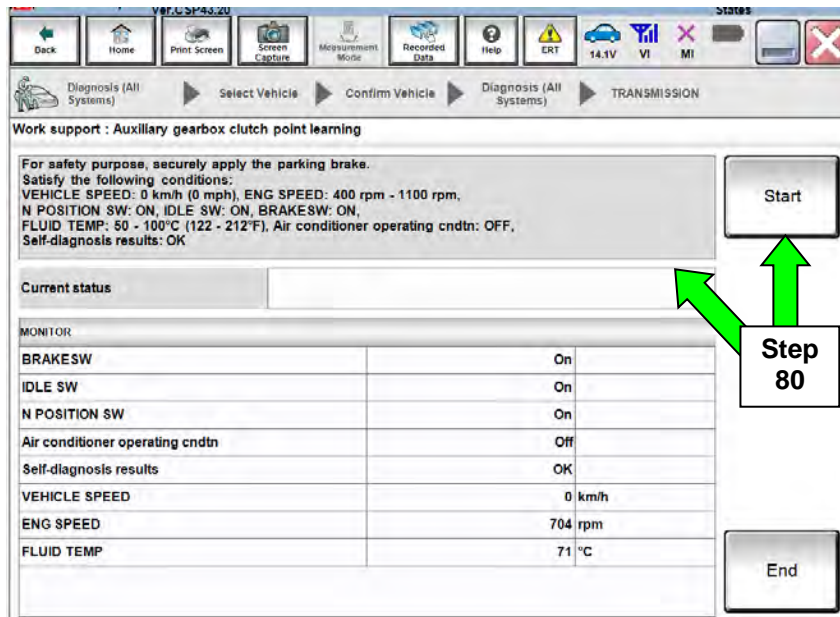

Figure 42
80. Follow the on-screen instructions in Figure 42 and then select **Start**.